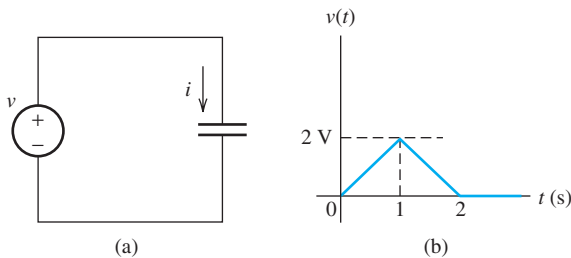

FIGURE P4.12 (a) A capacitor circuit; (b) waveform of $V(t)$.
- 4.12 (H) Suppose $C = 2$ F in the circuit shown in Figure P4.12(a) and the voltage, $v(t)$, is shown in Figure P4.12(b).